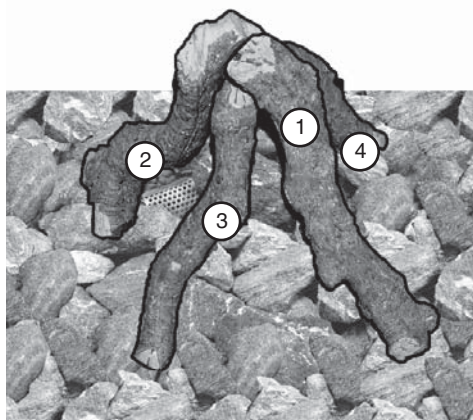

Fig. 15-4
1. Place the ends of three or four logs into the volcanic stones with their flat sides facing inward and their tops pointed upward. Then lean their other ends against each other at an angle in the center of the fire ring (see Fig. 15-4).